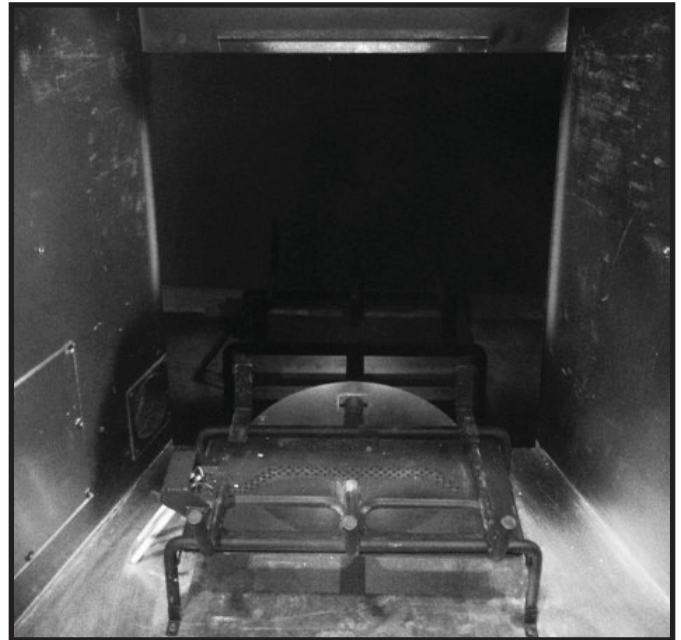

Figure 4. Rear Glass Panel
3. Ensuring that rear spacer is properly in place and tight to rear wall, install rear glass panel with arch down as shown in Figure 4.